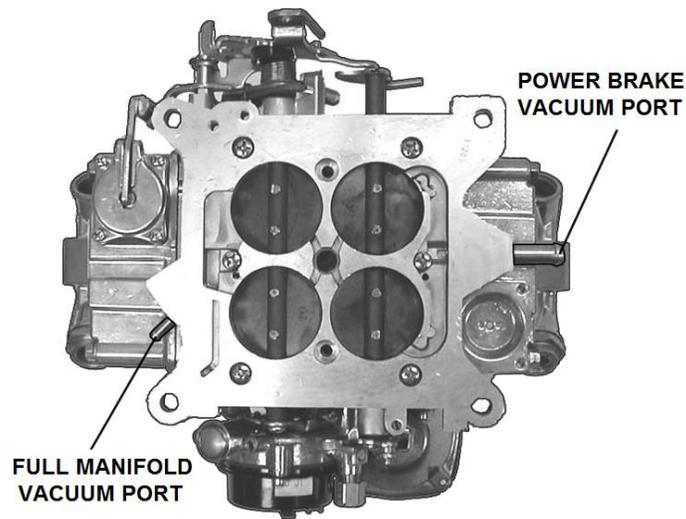

Figure 6
8. Connect the power brake hose to the portas shown in Figure 6.
1. Attach the vacuum gauge to a manifold vacuum port on the throttle body (Figure 6).